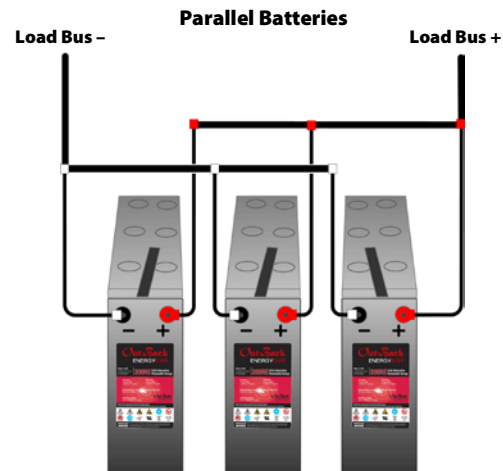

Figure 7 Parallel String Configuration
3. In common configurations, the battery on one end will be the positive (+) output for that string. This battery should be designated ①. Proceeding to the other end, adjacent batteries in that string should be designated ②, ③, and so on.
8. Install parallel connections. Parallel connections are made from the positive terminal of one battery or string to the positive of the next; negative connections are made similarly. (See Figure 7 on page 9.) External cables or bus bars must be provided. The interconnecting bar included with front-terminal batteries cannot make parallel connections.